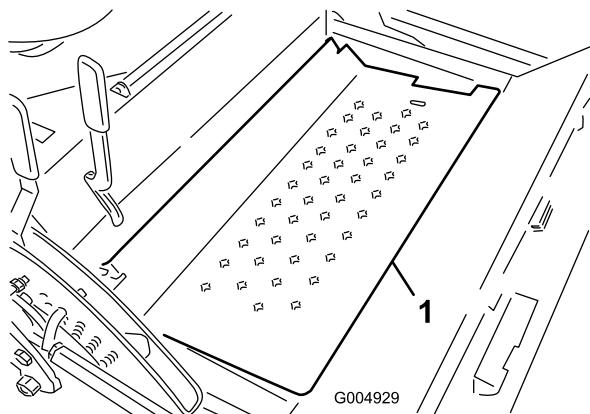

Figure 102
- 12. Pivot open the floor plate (Figure 102) and secure with prop rod.